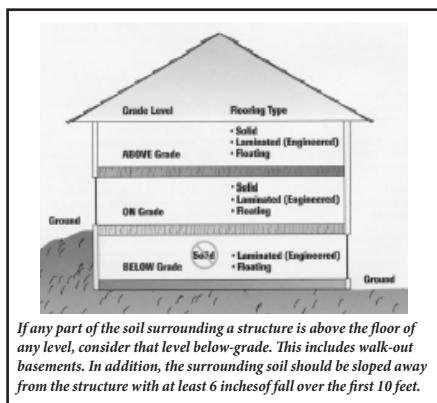

Figure 8-1 Stagger End Joints
8. Distribute lengths, avoiding "H" patterns and other discernible patterns in adjacent runs. Stagger end joints of boards row to row a minimum of 6" for strip flooring, 8"-10" for 3" to 5" plank, and 10" for plank wider than 5". (See Figures 8-1 and 8-2.)